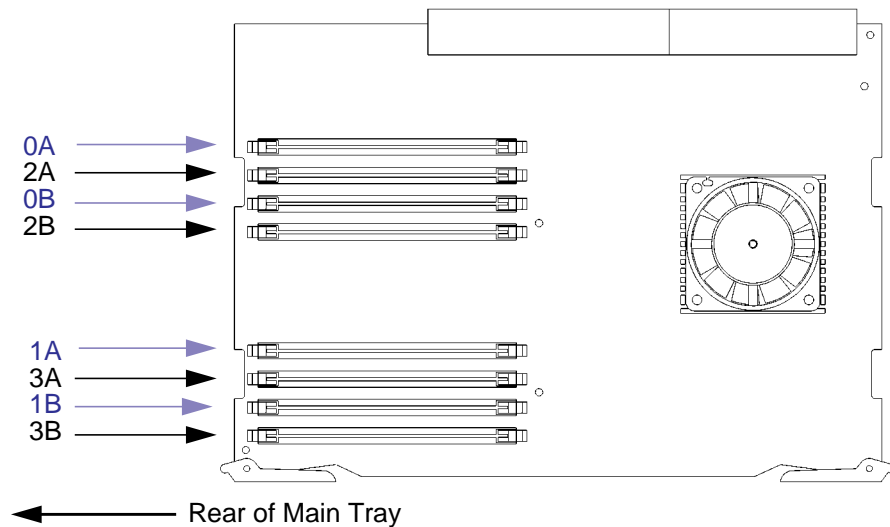

Figure 37
- Modules must be inserted in the lowest numbered memory pair first then in numerical order. For example, install memory in 0A and 0B first, then 1A and 1B, 2A and 2B, and 3A and 3B. Refer to Figure 37 for memory pair numbering and location.
- 2 Use Figure 37 to locate the memory modules on the CPU Assembly.